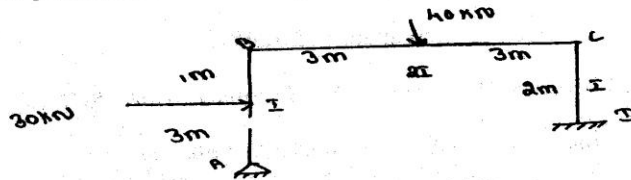

Figure-4
4. Analyse the portal frame shown in figure-4 by strain energy method. (15)